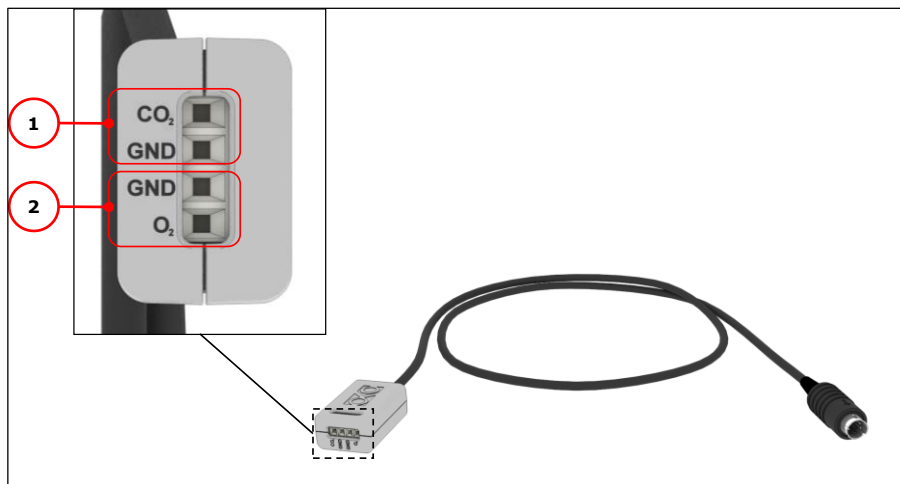

Figure 24 Analog Output connector
- In order to use the Analog Output correctly, make sure that your external instrument is connected to Okolab connector of the Analog output cable following the indications in Figure 24